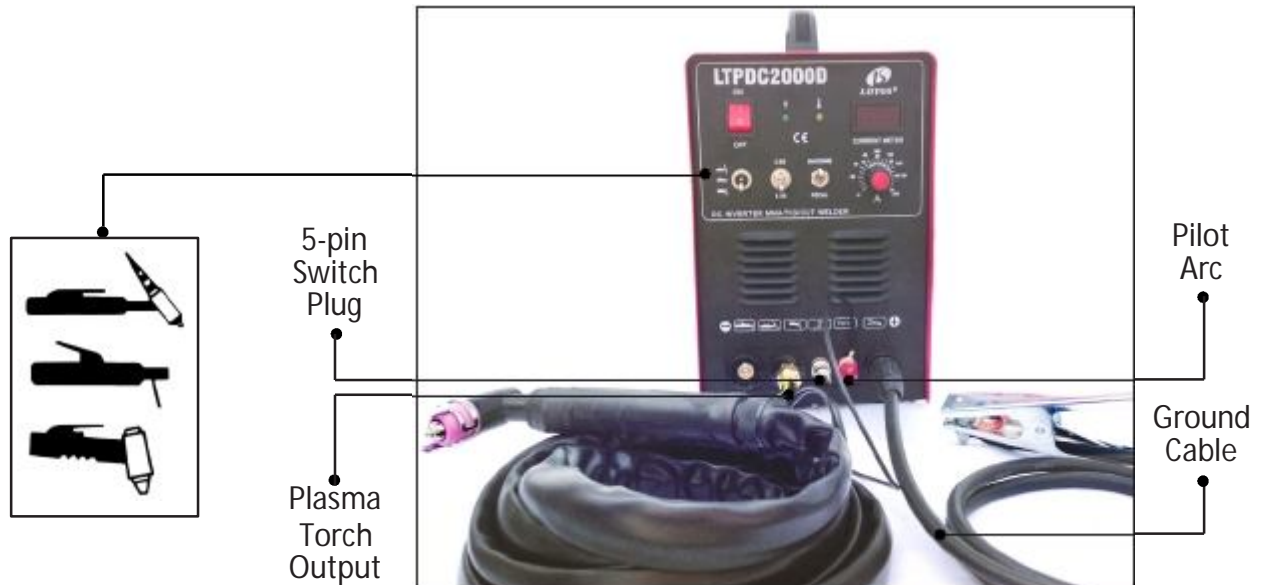

Figure 1.4
3. Connect your plasma cutting torch and ground cable to the front panel of the machine. Make sure the ground cable is connected on the right hand side where the "+" sign is located. (Figure 1.4)
- Set TIG Weld/Stick Weld/Plasma Cut to TIG Weld mode (refer to Figure 1.4, page 2)
- Set TIG Weld/Stick Weld/Plasma CUT to TIG Weld mode (refer to Figure 1.4, page 2).
- Set TIG Weld/Stick Weld/Plasma Cut to Stick Weld mode (refer to Figure 1.4, page 2).